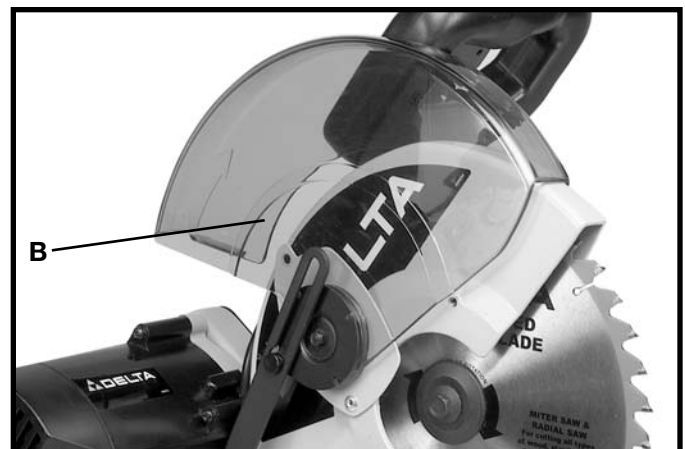

Fig. 46
2. Remove the screw (A) Fig. 45, and rotate the cover (B) to the rear (Fig. 46).